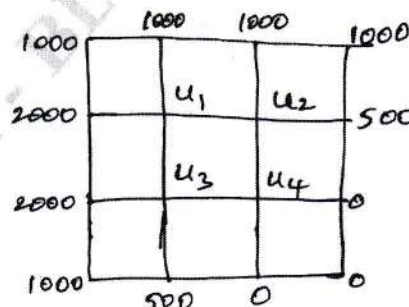

Fig Q7(b)
- on the boundary of the square in the Fig Q7(b), evaluate the functions